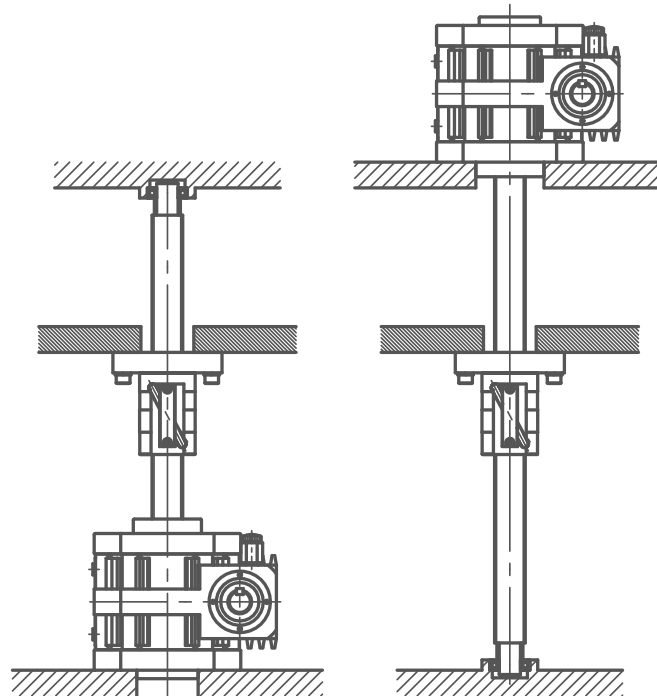

Fig. 2
10. See table 1 for bolt sizes to fasten the jack. Strength class 8.8 or above bolts are usually used for mounting. Use 10.9 or above when load applies directly to the mounting bolts as in Fig.2.
11. When using the traveling nut type, be sure to support the screw shaft end with a bearing as shown in Figure 2. Failure to do so may result in breakage of the screw shaft.